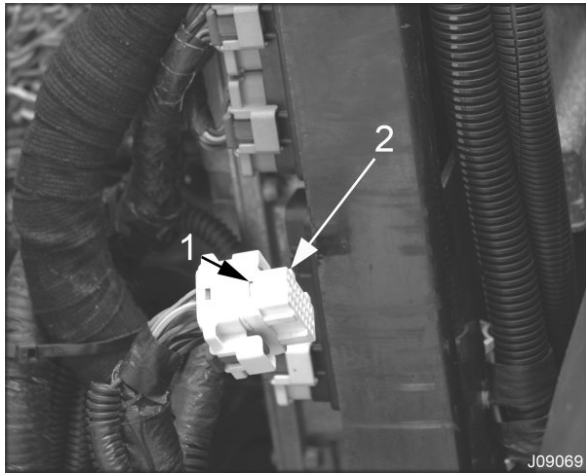

Figure 11 X-3 Connector Removed
19. Remove the X-3 connector from the ECM (Figure 11).